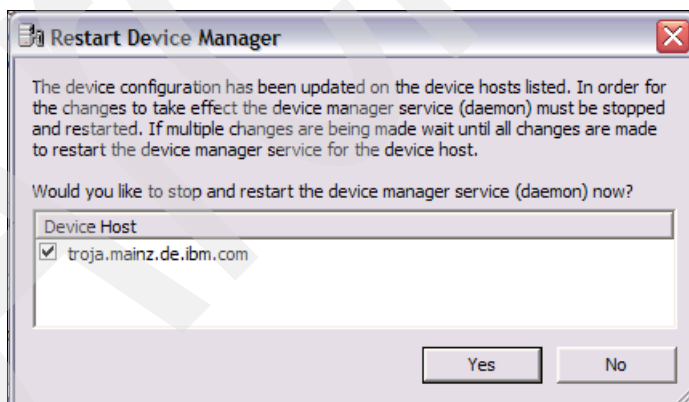

Figure 10-19 Restart the Device Manager
4. To activate these changes, we have to restart the device manager service (daemon). NetBackup asks us automatically (Figure 10-19 on page 340) after we submit the changes on the *Change Tape Drive* panel by clicking **OK**.